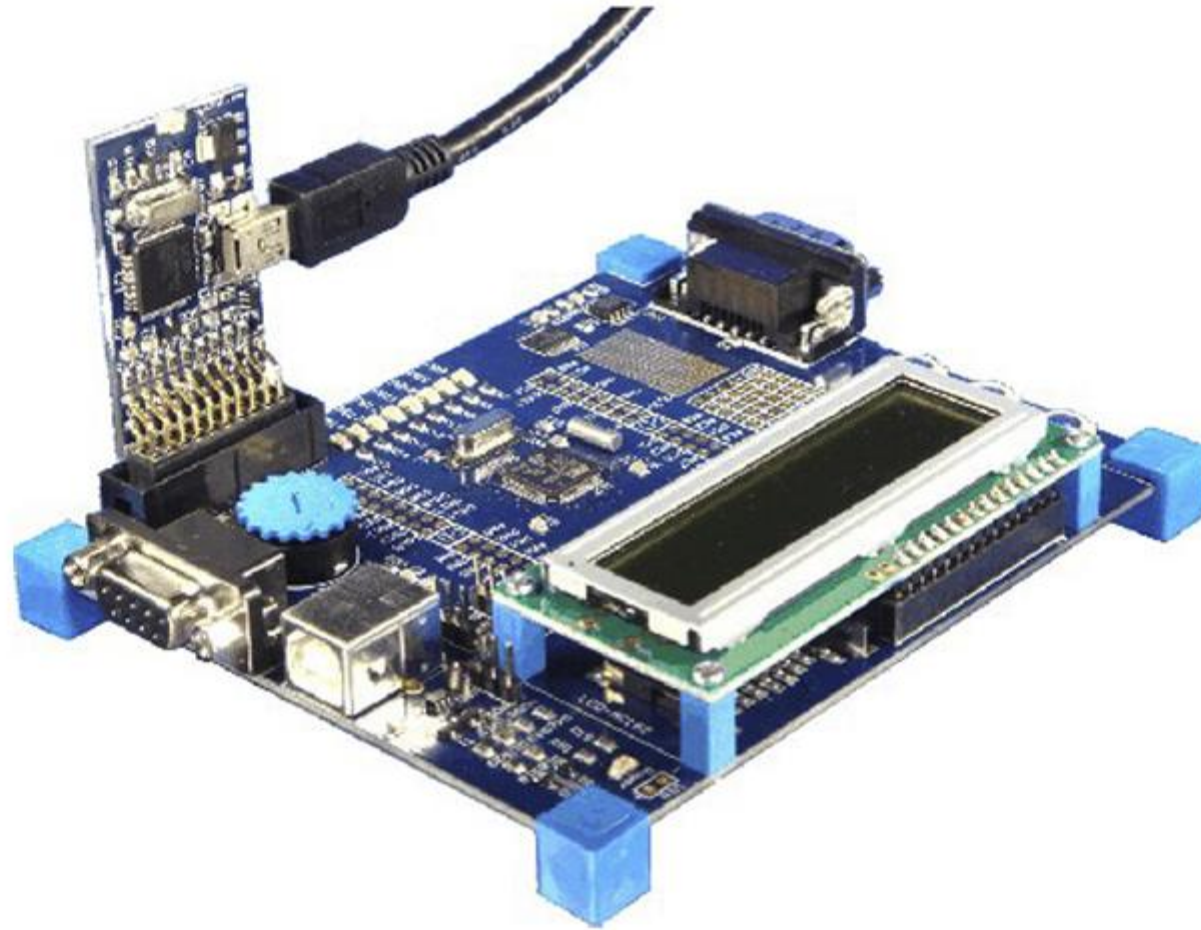

FIGURE 2.1
- for example, companies like Keil (an example is show in Figure 2.1), IAR Systems, and Code Red Technologies all have a number of development boards available.